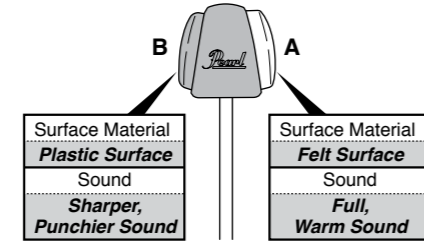

Fig. 1
The DuoBeat Beater features a Felt Surface (A) for a full, warm sound and a Plastic Surface (B) for a sharper, punchier sound. Use the side that best suits your playing style (Fig.1).